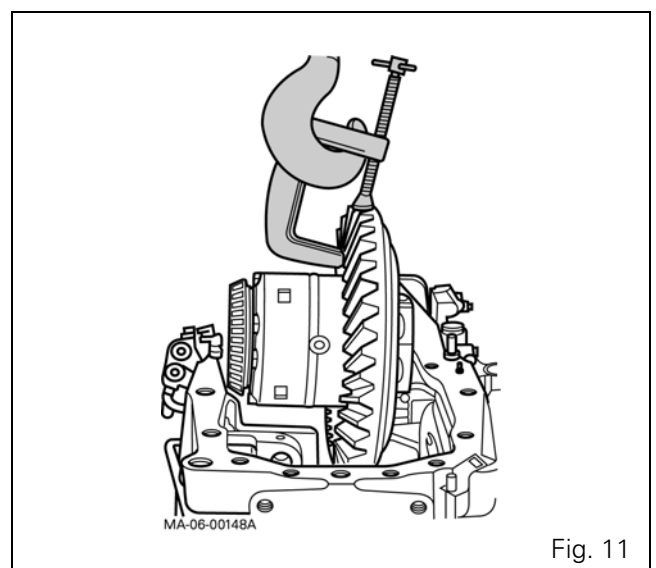

Fig. 11
33. Carefully place a sling on the differential assembly using a clamp (Fig. 11).
34. Before working on the screws (2) and the nut (42), consult special points § A. Loosen the screws (2) and nut (42) alternately to gradually release the spring (6).
35. Remove the flange (9), spring (6), coupler (7) and washer (11).
36. Take out the screws (26).
37. Take off the flange (25).
38. Take out the differential assembly from the centre housing (Fig. 11).